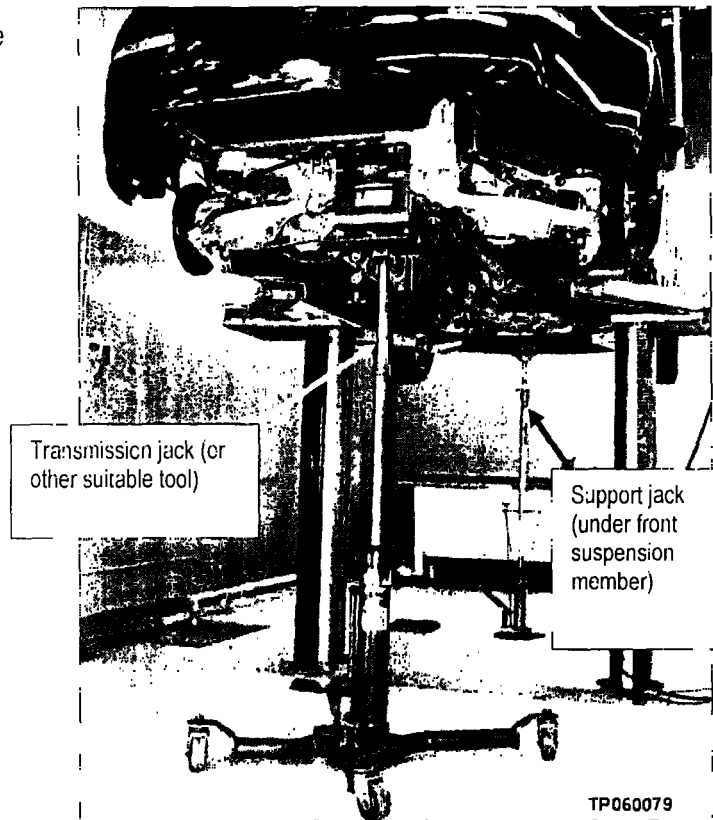

Figure 30
32. Place an additional support jack under the front suspension member to help stabilize the vehicle on the lift (see Figure 30).